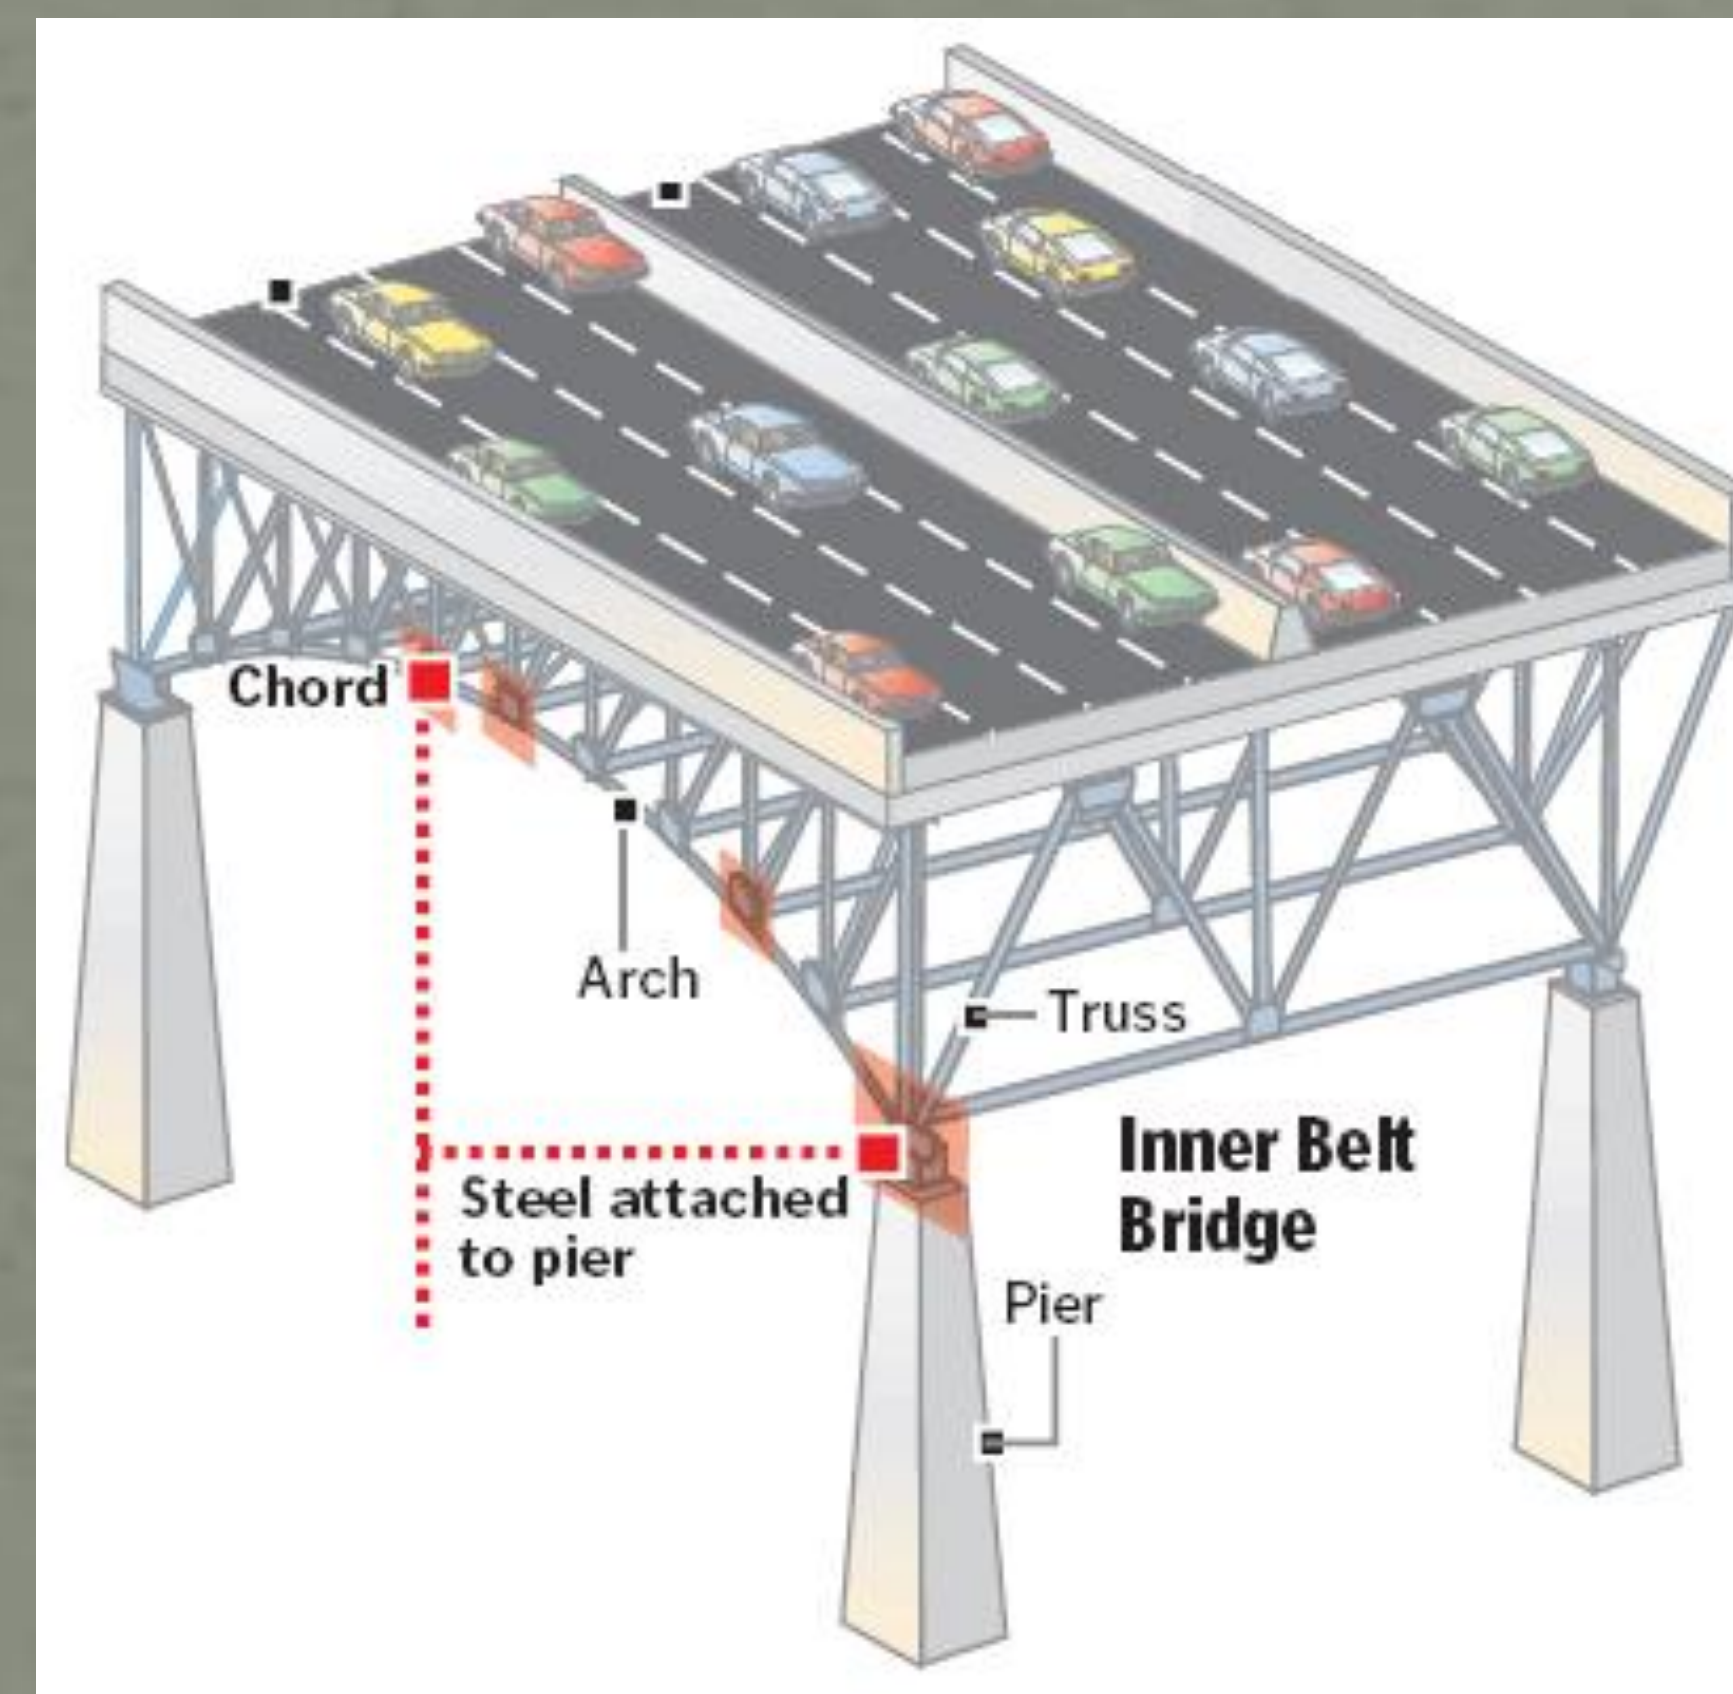

Fig. 3: Section of I-90 Bridge
After an inspection, ODOT (Ohio Department of Transportation) discovered corroded steel chords. **Chords** are found where the truss meets the arch as represented in figure 3. They rated 19% of lower chords "very bad" with large deformation or holes in them, and 47% were rated "bad." They found corrosion on three dozen gusset plates, and two gusset plates had buckled about an inch. **Corrosion** is the deterioration of a material, normally a metal that results from a reaction with its environment. In the case of the I-90 bridge, the Cuyahoga river below and the required amount of salt dumped on the bridge every winter raises the rate of corrosion.
- Figure 3: *Inner Belt Bridge*. Photograph. *More Bridge Repairs Needed*. By James Owens and Karen Farkas. Ohio Department of Transportation. Web. 18 Mar. 2010. <<http://blog.cleveland.com/pdgraphics/2008/10/03CGBRIDGE.pdf>>.